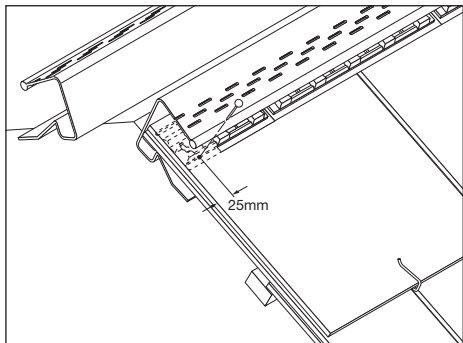

Fig. 6 – Insertion of fibre cement into batten section
- 7 Clip lead support strips to batten section so that free edge rests in mortar joint previously identified (Fig. 6).